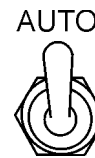

Figure 15. Manual-Off-On SW. (AUTO Position)
1. For unattended operation of the pump, place the operation switch (Figure 15) in the **AUTO** position.